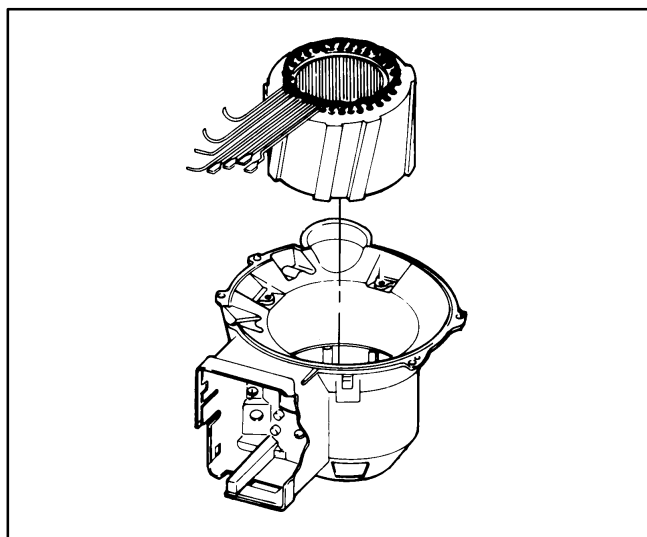

FIGURE 71. REMOVING THE STATOR FROM THE HOUSING
- 1. Turn the stator up as shown in Figure 71.